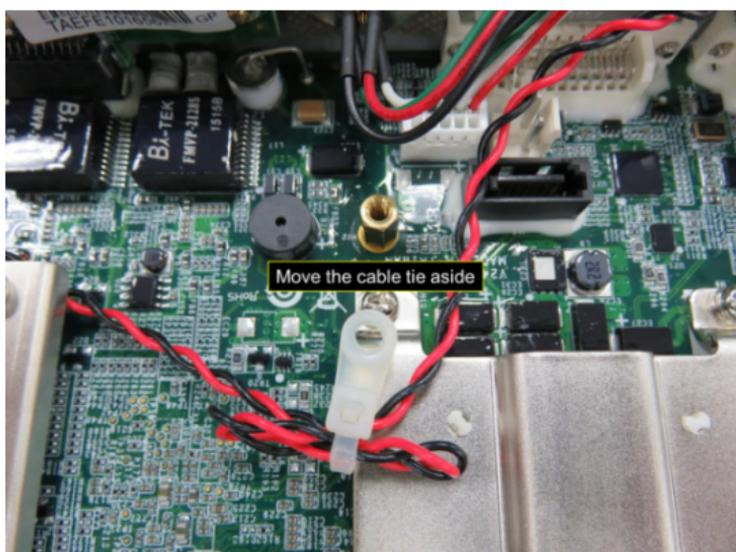

Figure 27
- 4.3.2 Move the cable tie that is holding the wire aside as shown in Figure 27.